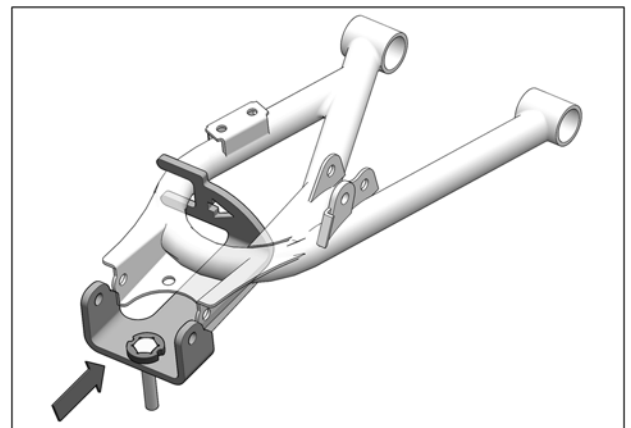

Fig. 9
8. Slide bracket back and align bracket holes with holes in suspension arm. See Fig. 9